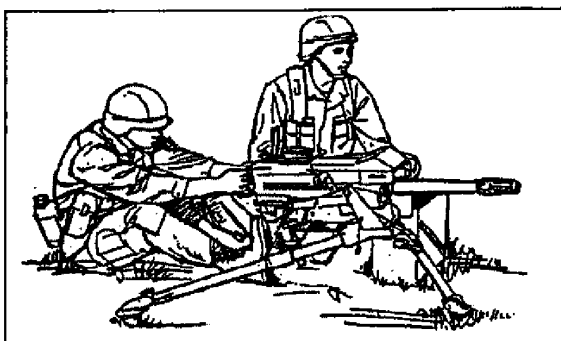

Figure 071-030-0004-3. Seated firing position, legs braced
b. Kneeling position. Kneel and grasp the control grips with your thumbs on the trigger (figure 071-030-0004-4).